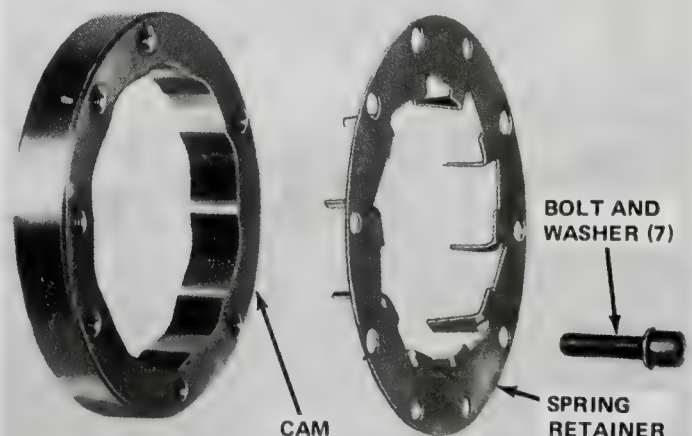

Fig. 2C-91 Cam and Spring Retainer
If the overrunning clutch cam or spring retainer are damaged, they can be replaced with a service replacement cam, spring retainer, and retaining screw (fig. 2C-91).
(3) Centerpunch rivets **exactly** in center of each rivet head (fig. 2C-92).
(4) Drill through each rivet head using 3/8-inch (9.5250 mm) diameter drill.